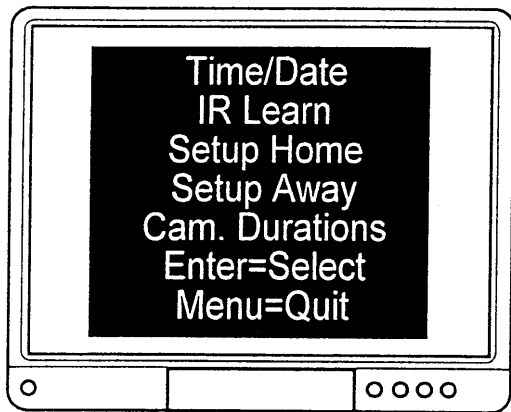

Figure 8. Programmable Options.
Step 1. Press 'Menu' on the keypad at the front of the Control Unit, the on screen display will show the main menu of programmable options as shown in figure 8.